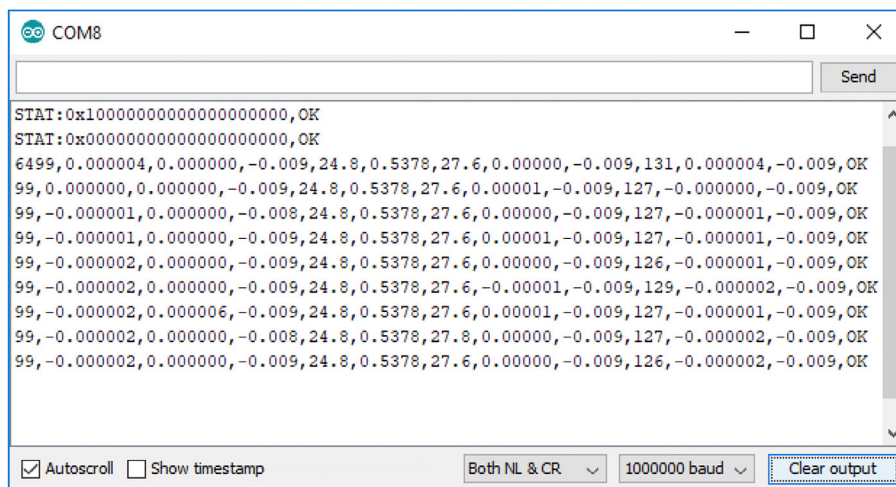

Figure 17. Arduino IDE, Serial Monitor Output of DC2732A\_BASIC Sketch
- d. As shown in Figure 17, when configured correctly the DC2732A\_BASIC Sketch will start to output measurement data.